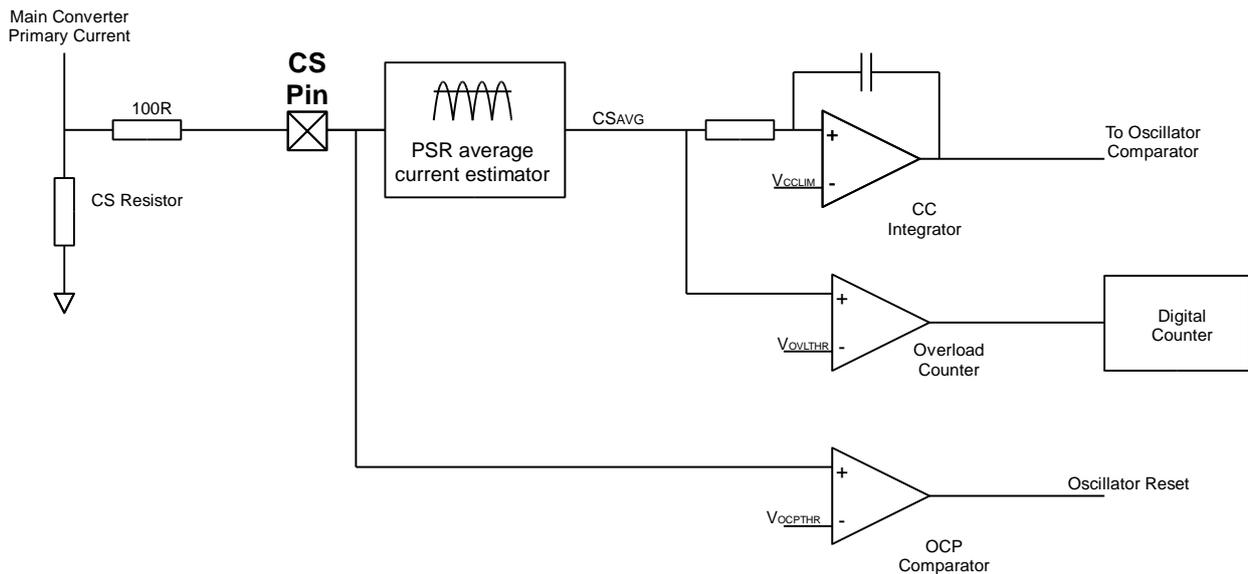

Figure 7: RED1401 Current protection and control circuits
Figure 7 shows the three current protection methods used in the converter:
Shown in figure 7 the signal from the CS pin is divided into two different paths. The bottom path provides peak instantaneous over-current protection (OCP) while the PSR Average Current estimation block provides the current limit (CC) and the average current overload (OVL) information. The voltage on the CS pin is an AC signal biased around GND. Inside the PSR block this signal is processed to provide a voltage proportional to the average converter output current.
The CC limiting circuit is shown in Figure 7. The CC operation is defined by an internally compensated control loop. This provides a system response time of approximately 1ms in a typical SMPS application. The constant current RMS limit,  $V_{OCLIM}$  is pre-set to 140mV, referred to the CS pin. This corresponds to 140% of nominal load.